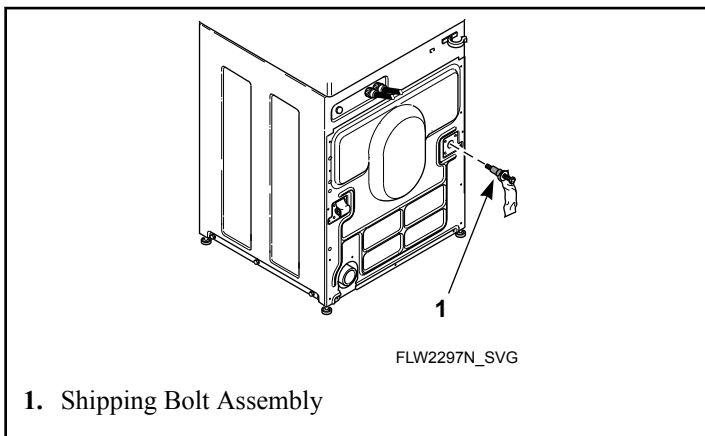

Figure 21
7. Insert shipping bolt assemblies into each shipping bolt hole. Refer to *Figure 21*.